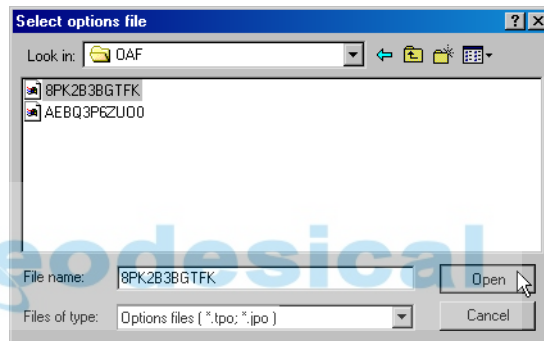

Figure 4-10. Load OAF
3. Navigate to the location of the new Option Authorization File. OAFs have .jpo extension and are unique to each receiver (Figure 4-10).
4. Select the appropriate file and click **Open** (Figure 4-10). The new receiver option loads onto the receiver and the Option Manager table updates.